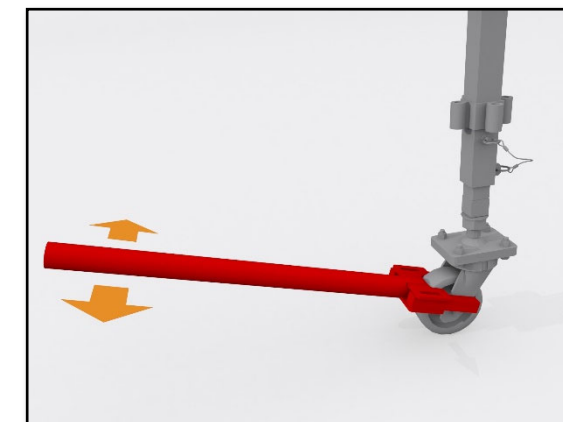

Fig. 32 – Node Turner on Rolling Castor
9.1.9.1 Using the Node turner, rotate all Telescopic Leg Castors to face the same direction. It shall not be possible to push a large Stage unless this step is carried due to the swivel radius of the castor. *Fig. 32 – Node Turner on Rolling Castor*